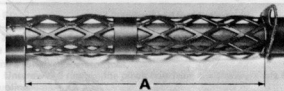

Fig. 11.21. Collapsible section of steering column (Sec. 20)
- 3 If the overall length of the lattice section of the column is less than 10.37 in (263.5 mm) then again the column has suffered partial collapse (see Fig. 11.21).